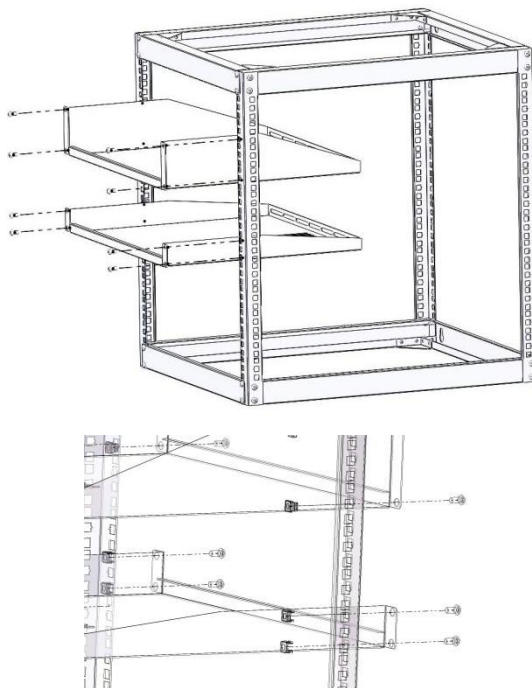

Figure 3
3. Place Top Pallet(2U) (⑥)and Bottom Pallet(1U)(⑦)on the rack. Secure with the 8pcs M6 Cage Nuts(⑨) and 8pcs M6*12 cross head screws(⑩) .(Figure 3).